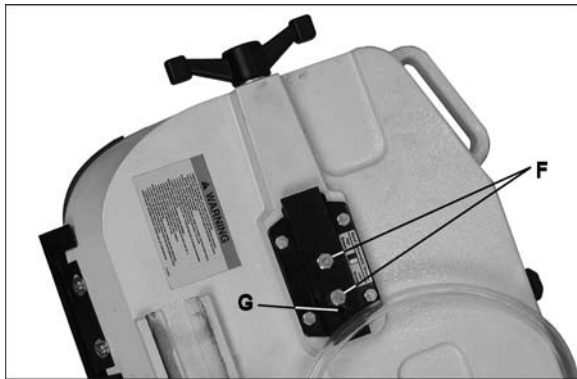

Figure 21
5. If blade will not track in position, loosen screws (F, Figure 21), but do not remove.
6. Turn set screw (G, Figure 21) counter-clockwise so that blade starts to move away from the flange; then immediately turn set screw in the other direction so that blade stops, then moves slowly back toward flange. NOTE: This adjustment is sensitive; do it gradually and in small increments allowing the wheel to respond to the changes.
10. Tighten two screws (F, Figure 21).